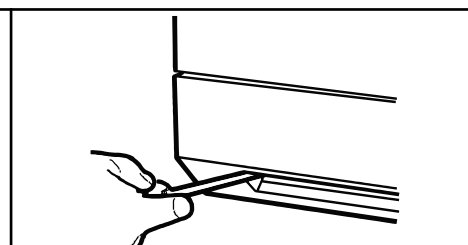

FIG 12
2. Remove the lower front cover by unscrewing two M5 screws through the air intake slots. Refer **FIG 12** unit is fitted with electronic switches ensure that the cable cannot be trapped when the heater is installed.